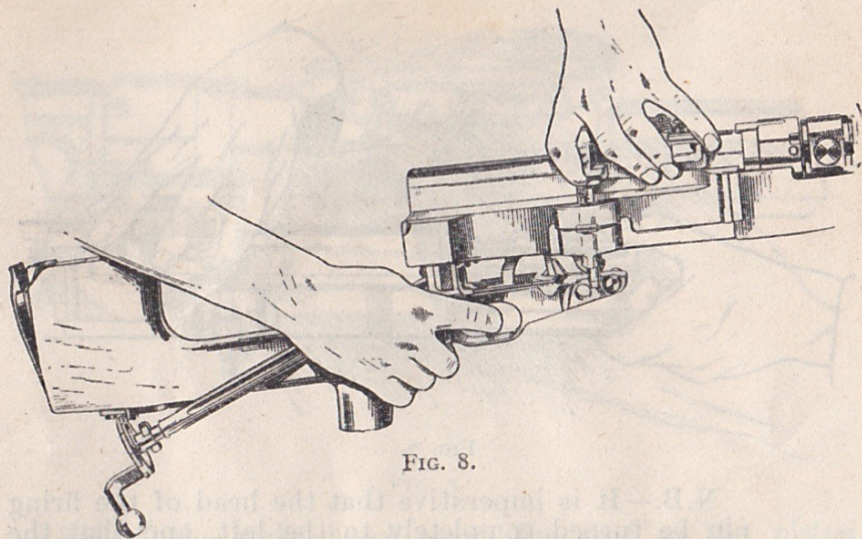
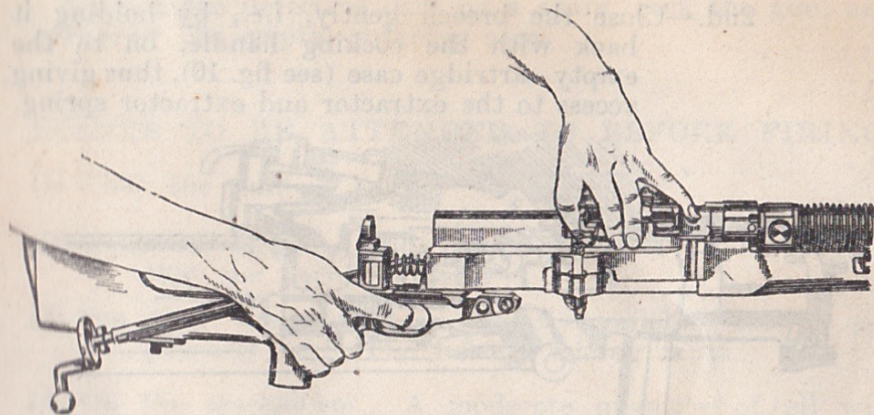

FIG. 8.
FIG. 9.
5th.—Mount the guard. (See figs. 8 and 9.)
- (c) Bring the guard to a position under the receiver such that the two lugs on its head are opposite their mortises in the rear of the receiver, the trunnions at the front being below and slightly in advance of their sockets in the bottom of the receiver (see fig. 8). In order that the end of the recoil spring remain engaged in its seat in the guard, it may be held in place by means of the end of the cocking handle shank, as shown in fig. 9.